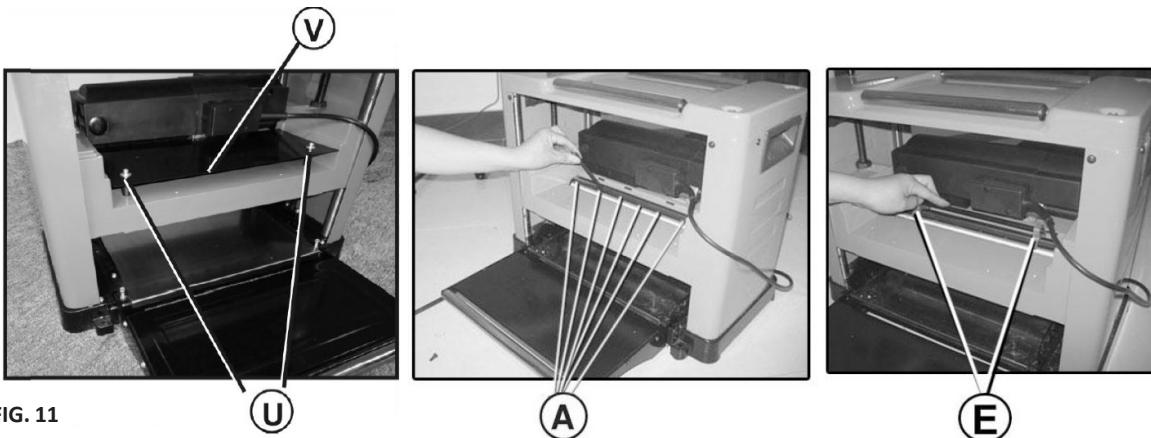

FIG. 11
Replacing and adjusting the blades (Fig. 11 - 13)
1. Use the Allen wrench (M) to remove the dust cover (V) by loosening the screws (U) as shown in Figure 11.
2. Use the spanner (N) to loosen the blade locking plate (B) and the blade (C) by turning the outer hexagonal bolt (A) clockwise. The blades have a spring-loaded mounting system (D) and can be removed when the blade locking plate is removed.